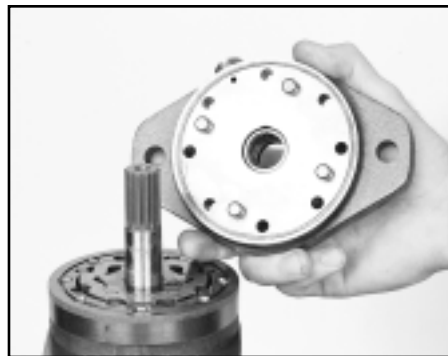

Figure A19
23. Install a square ring seal (3) into the groove of the front bearing housing/flange (10). Place the front bearing housing w/ square ring over the shaft and onto the locating ring. Be sure to align the 4 dowels with the short dowels inside the locating ring and to align the bolt holes with the holes in the locating ring. ( bolt hole pattern will only match one way.) SEE FIGURE A19